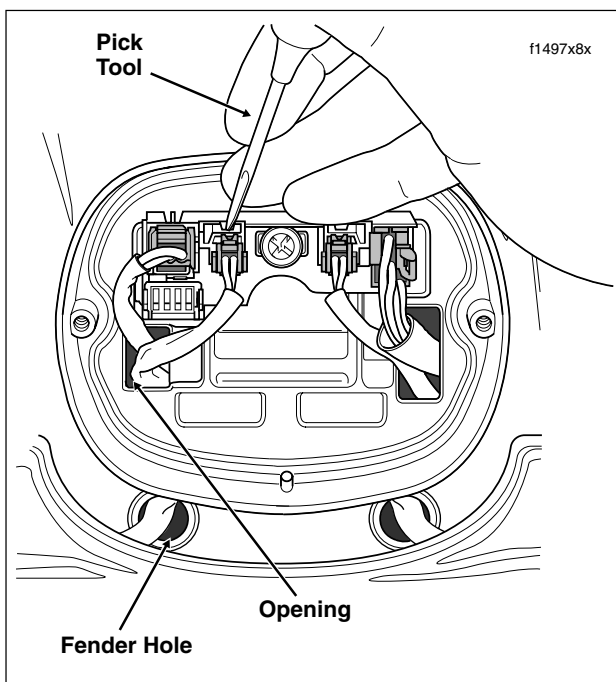

Figure 8-59. Release Left Turn Signal Lamp Socket
4. Depress button at top of 2-place Multilock socket to release turn signal lamp assembly from pin housing. To release socket housing, use a pick or small screwdriver to depress release button as shown in Figure 8-59.
7. Draw conduit and 2-place Multilock socket out through fender hole just below chrome plastic bracket. See Figure 8-59.
5. Route 2-place Multilock socket through same hole in bracket, and then feed socket through fender hole just below chrome plastic bracket. See Figure 8-59.